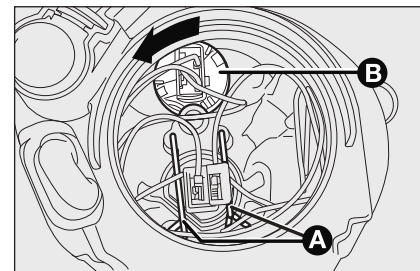

fig. 25
- ☐ release the two bulb holding clips **A**-fig. 25;
- ☐ turn the bulb holder clockwise **B-fig. 25** and withdraw it;